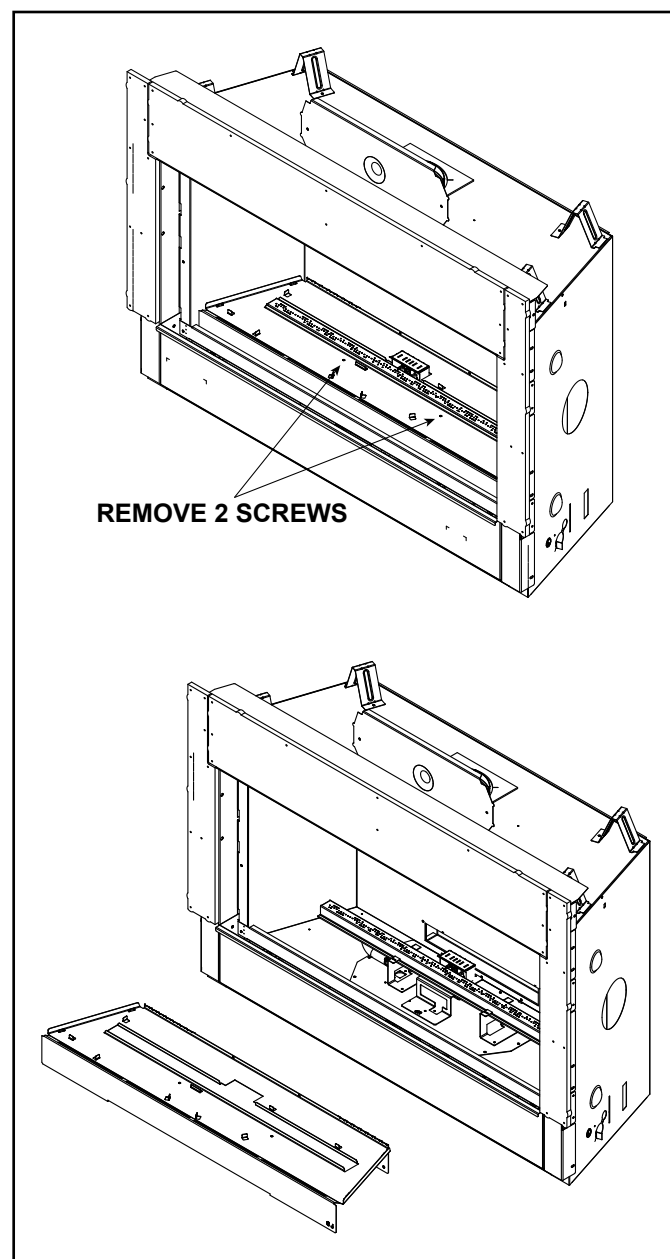

Figure 9.1 Basepan Removal - COSMO42-IFT Shown
1. Locate and remove the two screws that secure the basepan to the appliance. See Figure 9.1. Remove basepan. Retain screws.